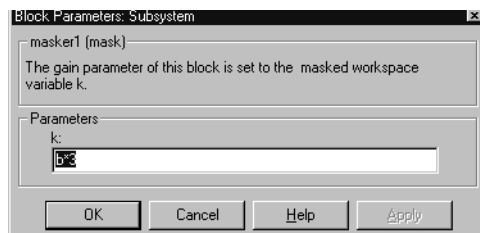

Figure 5-2: Tunable Expression in Subsystem Mask Dialog
Suppose that the base workspace variable *b* is declared tunable with `SimulinkGlobal(Auto)` storage class. Figure 5-2 shows the tunable expression `b*3` in the subsystem’s mask dialog.
- Workspace variable $b = 2$. The expression $b * 3$ is plugged into the mask dialog as in Figure 5-2.